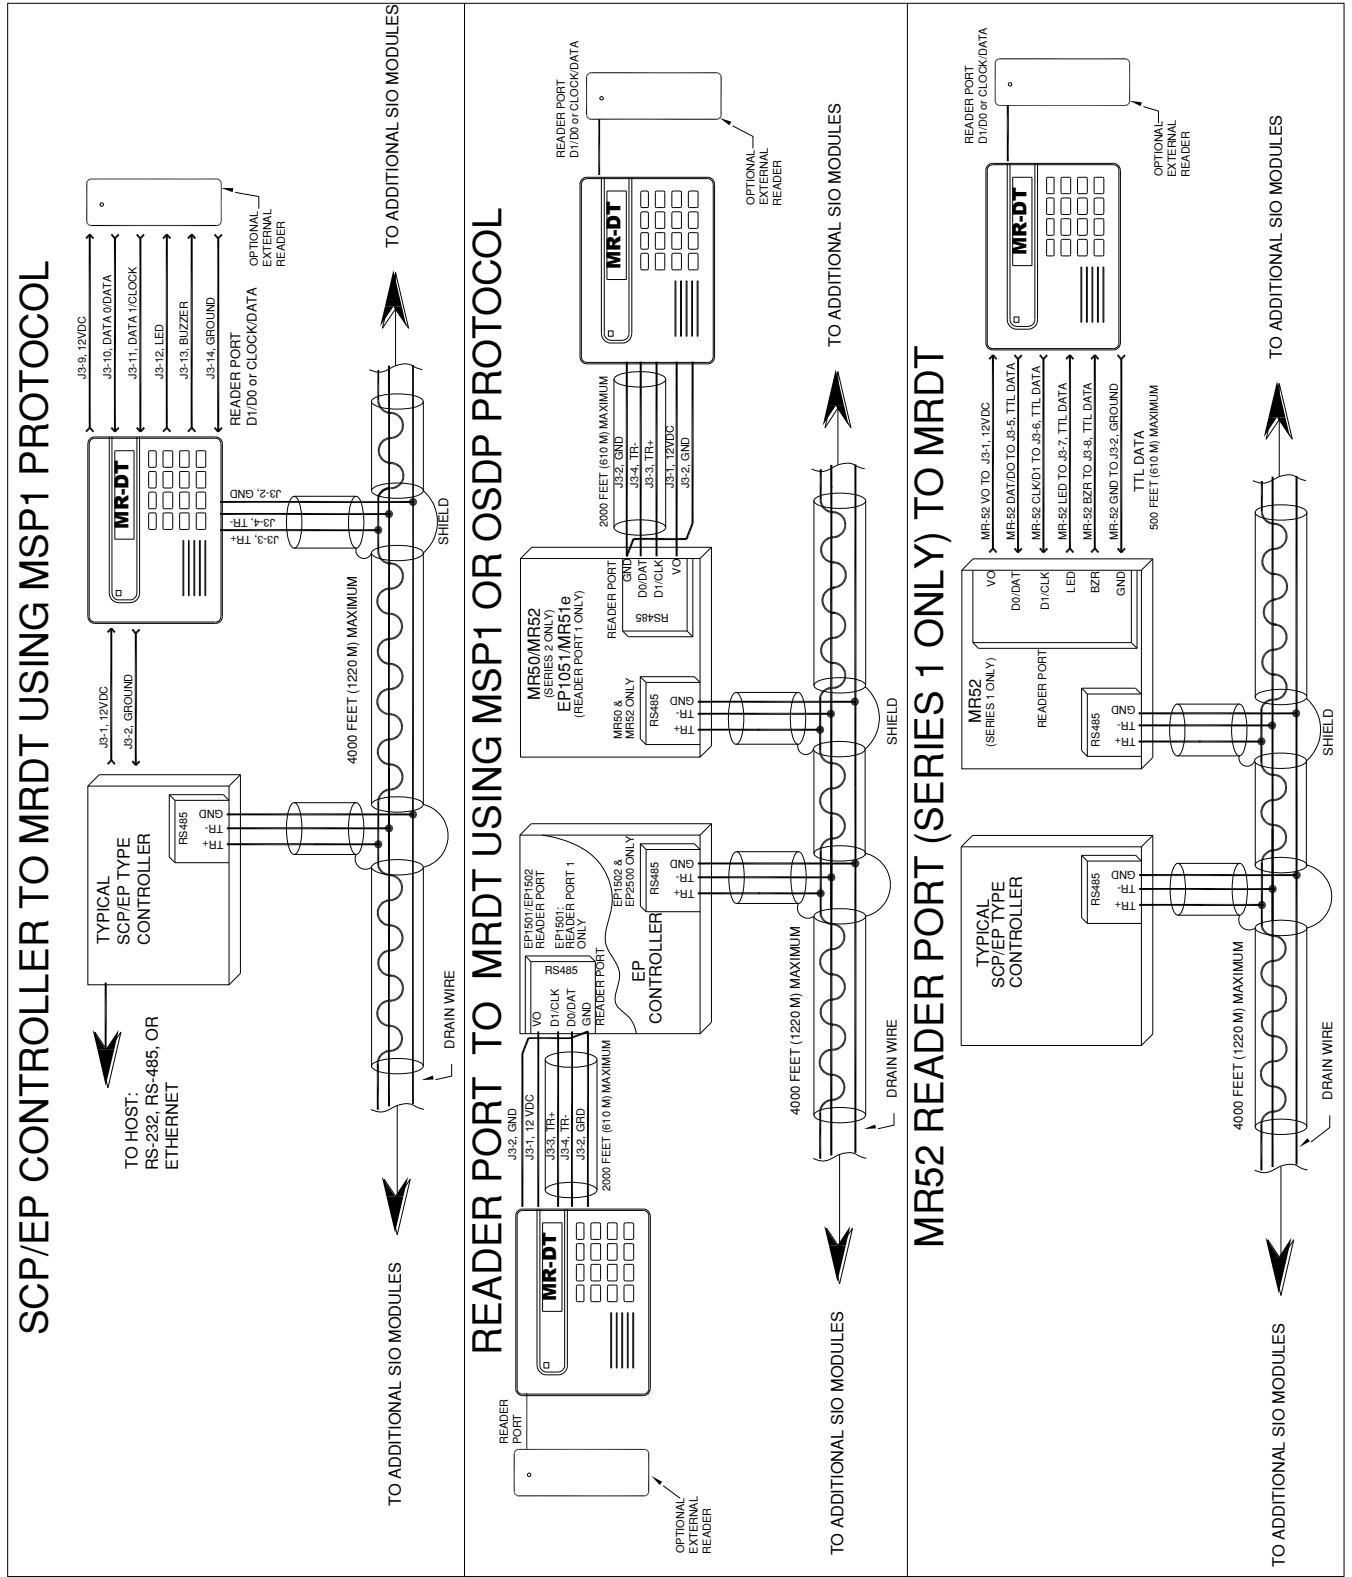

Figure 3-1: Communications Wiring Diagrams
**Series 1 MR52 Reader Port:** via TTL signaling from Series 1 MR52 reader port. The total cable length is limited to 500 feet (152 meters). See figure 3-1 for wiring diagram.
Connects to SIO serial communication bus; TR+ and TR-. See figure 3-1 for wiring diagram. The total cable length is limited to 4,000 feet (1,220 meters).
**MSP1 or OSDP \*:** via a half duplex multi-drop 2-wire RS-485 interface to a reader interface port on EP1501 (reader port 1 only), EP1502, Series 2 MR50, Series 2 MR52 or MR51e (reader port 1 only). See figure 3-1 for wiring diagram. The total cable length is limited to 2,000 feet (610 meters). See notes 1 and 2 in section 6 for additional information.